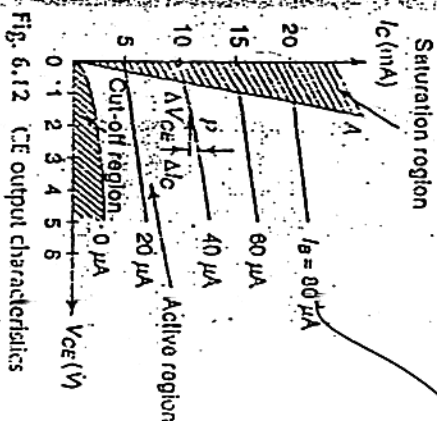

Fig. 6.12 CE output characteristics
**Output characteristics.** To determine the output characteristics, the base current  $I_B$  is kept constant at a suitable value by adjusting base-emitter voltage,  $V_{BE}$ . The magnitude of collector-emitter voltage  $V_{CE}$  is increased in suitable equal steps from zero and the collector current  $I_C$  is noted for each setting  $V_{CE}$ . Now the curves of  $I_C$  versus  $V_{CE}$  are plotted for different constant values of  $I_B$ . The output characteristics thus obtained are shown in Fig. 6.12. From Eqs. (6.6) and (6.7), we have
It is the slope of CE output characteristic  $I_C$  versus  $V_{CE}$  as shown in Fig. 6.12. The typical value of this parameter is of the order of 0.1 to 10  $\mu\text{mhos}$ .